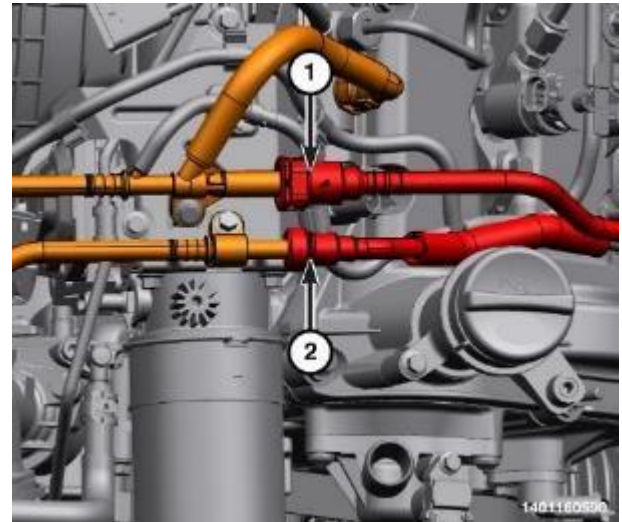

Figure 13 – Fuel Supply and Return Lines
20. Disconnect the fuel supply (2) and return (1) lines (Figure 13).